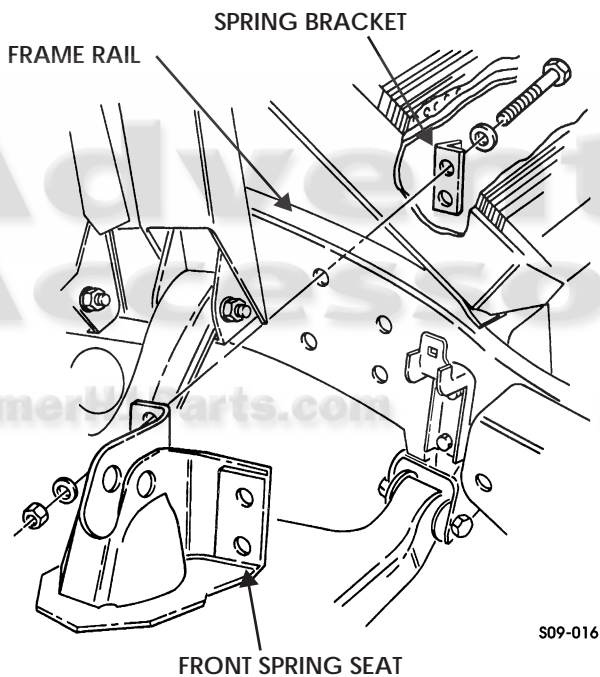

Figure 9-26: Front Spring Seat
2. Remove four locknuts, washers, capscrews, washers, spring bracket, and front spring seat from frame rail. Discard locknuts (Figure 9-26).
1. Install spring bracket and front spring seat on frame rail with four washers, capscrews, washers, and locknuts. Tighten locknuts to 261 lb-ft (354 N•m) (Figure 9-26).